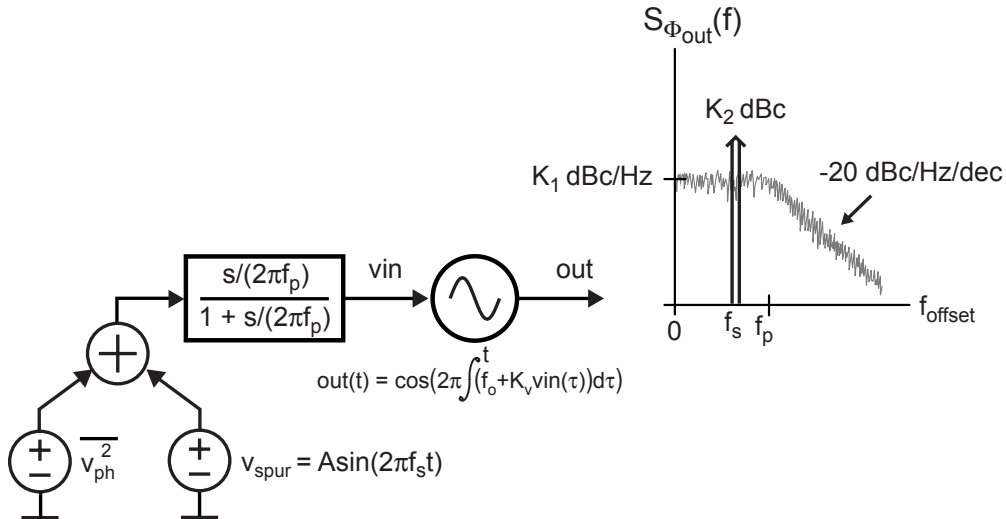

Figure 1: Simplified frequency source simulation implementation with given phase noise and spurious noise.
- (a) Draw the block of the system shown in Figure 1 in which all blocks are cast as transfer functions (i.e., the VCO is an integrator block).
- (e) Compute the value of charge pump noise parameters in the `gated_noise` module to achieve a low frequency phase noise of -95 dBc/Hz , as shown in Figure 1. For simplicity, assume that `varpos` equals `varneg`. Verify your calculation by simulating the system with the appropriately set charge pump noise in CppSim, and use the `comp_psd.m` script to plot the resulting phase noise.
- (f) Compute the value of the input-referred VCO noise variance (i.e. the `var` parameter in the noise module) to achieve PLL output phase noise that closely matches that in Figure 1 (i.e., -115 dBc/Hz at 1 MHz offset). Verify your calculation by simulating the system in CppSim with both charge pump noise (computed from the previous part) and input-referred VCO noise included in the simulation, with `comp_psd.m` being used to plot the overall output phase noise.